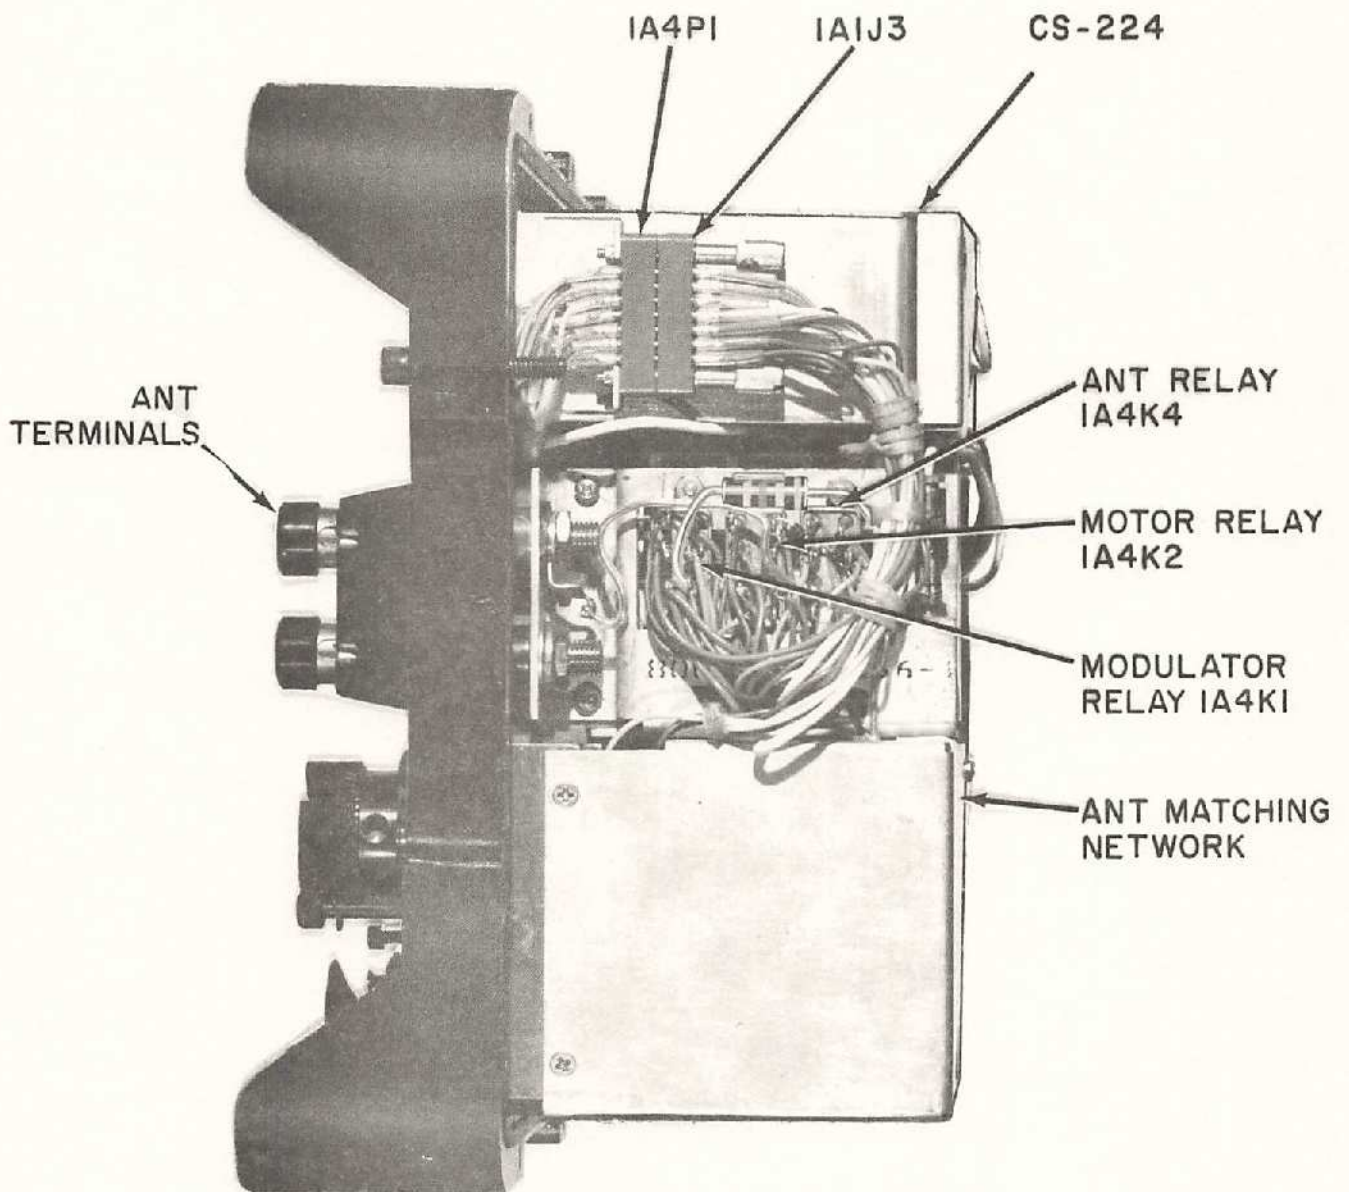

Figure 5-13. TAR-224 Module Location (right side view)
- (5) Reposition the CS-224 to your left and loosen the transmitter connector 1A4P1 (figure 5-13).